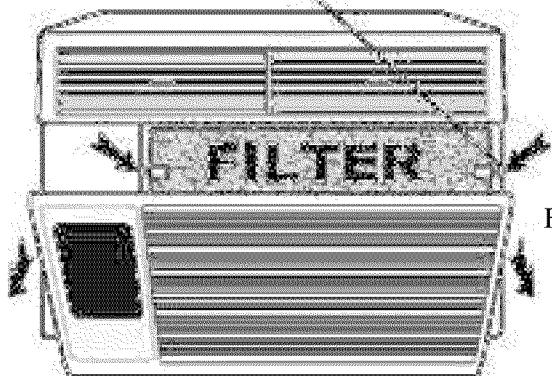

Figure 3
Open the return air (RA) grille by grasping it at the top outside edges and pulling towards you (see figure 3). The RA grille will stay open until it is detached or closed. If you need to remove the RA grille, grasp it at the bottom and pull towards you.
If the RA grille has been removed, reposition it bottom first, while lining up the control panel opening with the control panel itself (see figure 3). Once it is lined up, push in at the bottom of the RA grille until you hear it snap into place. Now close it by grasping the top outside edges and pushing it towards the unit until it snaps shut.